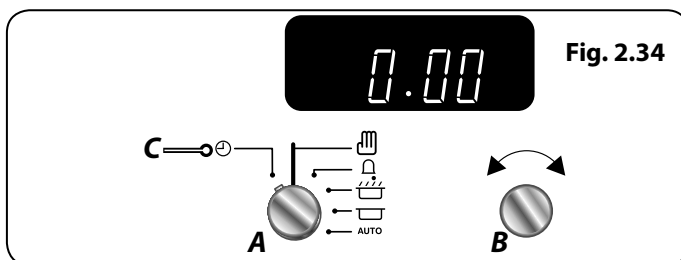

Fig. 2.34
To cancel any automatic settings turn the **Timer (A)** knob to the **Clock (C)** setting and release (**Fig. 2.34**).